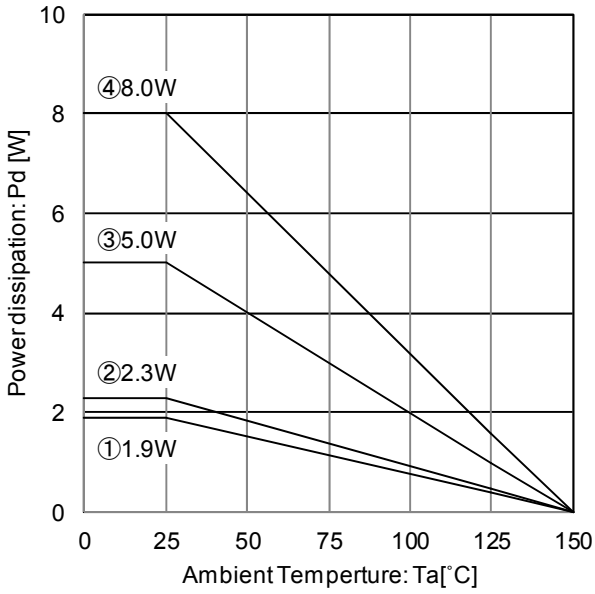

Figure 21. Package data of TO263-5F
Refer to the heat mitigation characteristics illustrated in Figure 21, 22 and the power dissipation under actual operating conditions should be taken into consideration and a sufficient margin should be allowed for in the thermal design. The amount of heat generated depends on the voltage difference across the input and output, load current, and bias current. Therefore, when actually using the chip, ensure that the generated heat does not exceed the Pd rating. Even if the ambient temperature Ta is at 25 °C, it is possible that the junction temperature Tj reaches high temperatures. Keep the whole operating temperature range within $T_j \leq T_{jmax}$.
- Calculation example : with TO263-5F package , Ta = 105 °C, V_{CC} = 13.5 V, V_O = 5.0 V, board ③ (Figure 21.)
In case of board ③ in Figure 21, Ta = 105 °C
At Ta = 105 °C with Figure 21 ③ condition, the calculation shows that 211 mA of output current is possible at 8.5 V potential difference across input and output.
- Calculation example : with T_c (bottom) = 80 °C, V_{CC} = 13.5 V, V_O = 5.0 V, I_o = 200 mA, board ③ (Figure 21.)